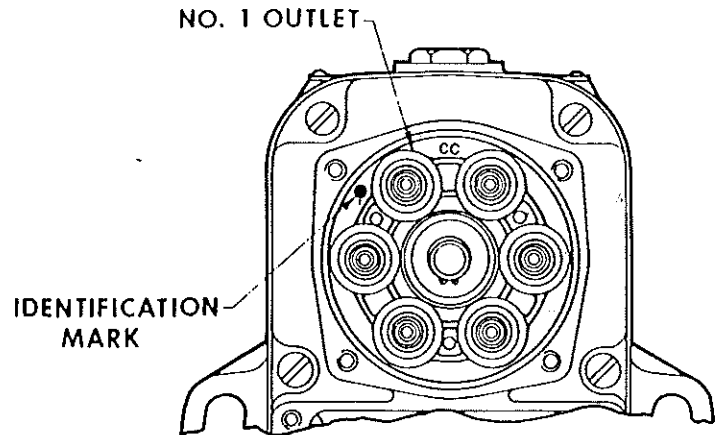

Figure 708. Location of Lubrication Identification Mark
- G. If block is phenolic or buna type (see Note above) and is not marked with a raised boss or a drill point indentation to the left and adjacent to No. 1 high tension tower (see Figure 708), remove old lubricant as follows:
(1) Place distributor block, high tension towers up, on a piece of absorbent material, such as cardboard, in a 250°F oven for 4 hours. This should cause impregnating oil to appear on surface of bushing and on absorbent materials.
(2) Remove block from oven and using a clean, dry cloth, immediately wipe all oil possible from inside diameter of bushing. It may be necessary to do this several times as part cools.
(3) Identify distributor block by drilling an indentation 0.125 inch diameter and 0.016 inch deep located as shown in Figure 708.